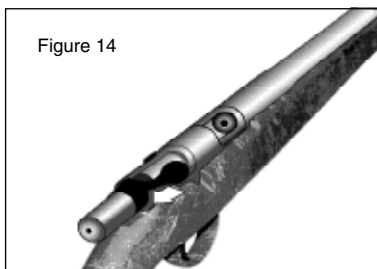

Figure 14
2. Maintaining downward pressure on the bolt handle (as described in Step 1), pull the bolt assembly rearward, as per arrow "B". The entire bolt assembly will now pull free from the receiver (Figure 14).
1. With the Bolt Assembly in the cocked position, align the bolt assembly in the same position as when removed in Figure 14. Using the thumb, push forward on the Bolt Cap, past the initial resistance, until the Bolt Assembly stops (Figure 15).